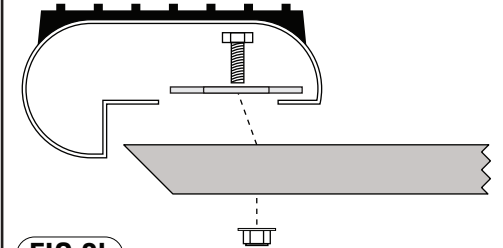

FIG 2b TOP VIEW
3) Rotate clamp brackets above main brackets, making sure that both edges of the running board are in between the clamp bracket and the main bracket. Install 5/16" hex bolt through center hole of bracket clamp and oblong hole of main bracket placing 5/16" flange nut on bottom side. Fig 2b